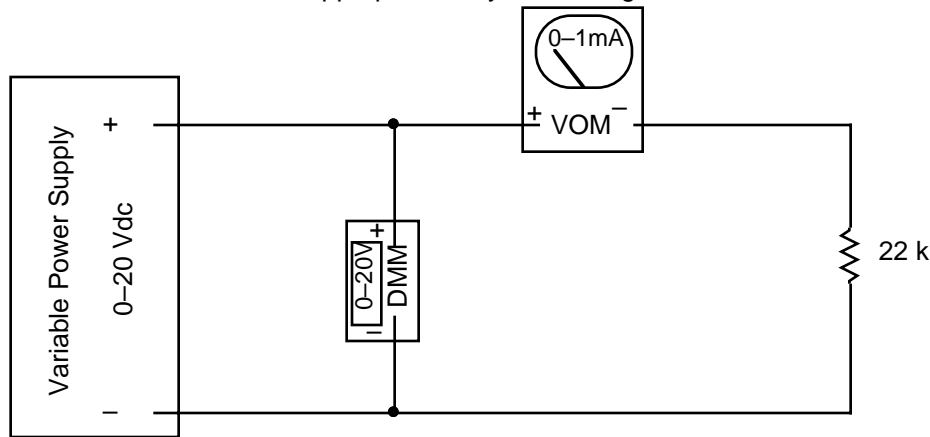

Fig 1.1
a) Verify Ohm's law for a 22 k $\Omega$  resistor. Use an analog volt-ohm meter (VOM) for the current measurement and measure the voltage with a digital multimeter (DMM). Use the circuit of Fig. 1.1. When using the meters, start from the least sensitive scale and increase sensitivity until you get to the most sensitive scale appropriate for your reading.